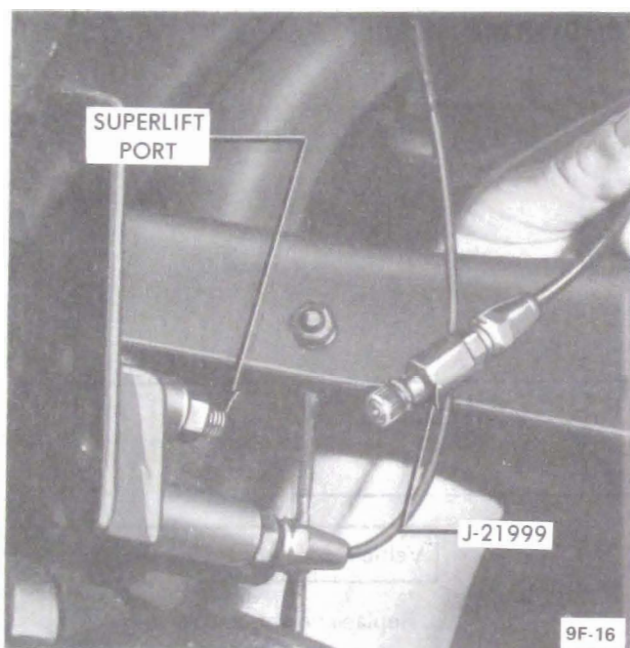

Figure 9F-3 - Superlift Air Supply Line Removed
2. Remove Superlift air supply line at height control valve. See Figure 9F-3.